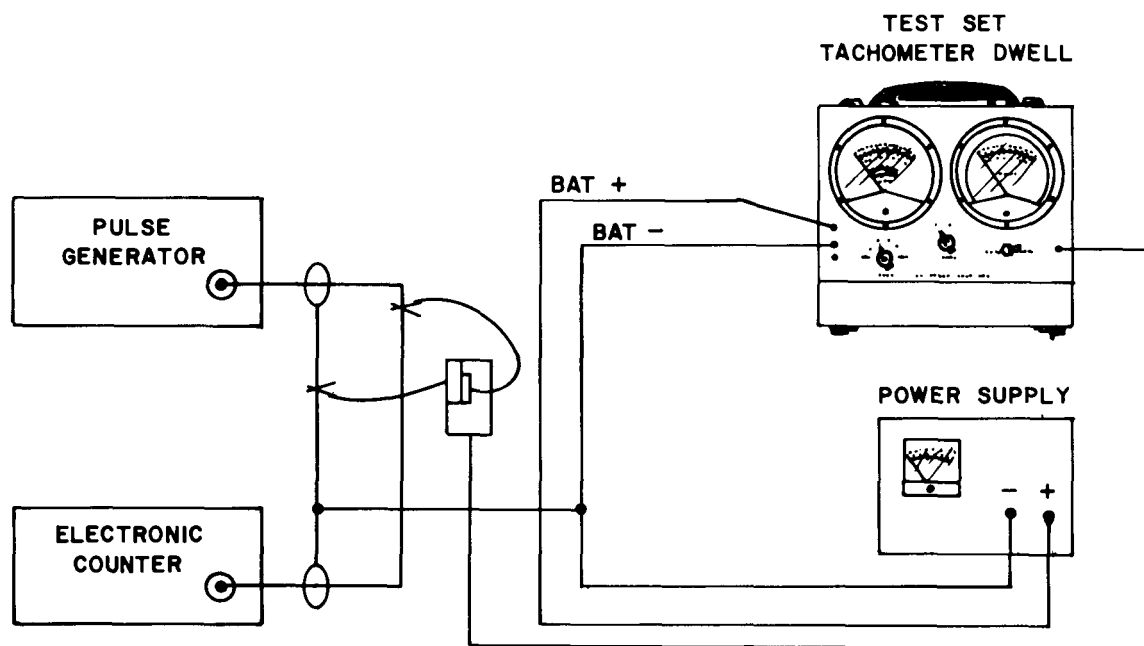

FIG. 4-2. TACHOMETER TEST SETUP
1. Connect equipment per figure 4-2. Set unit under test to 1000 RPM.